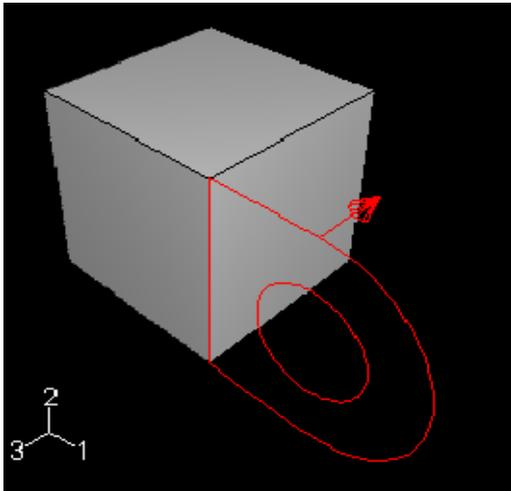

Figure C-9 Completed flange sketch showing the extrusion direction.
- Click **Flip** to reverse the extrusion direction, as shown in Figure C-9.